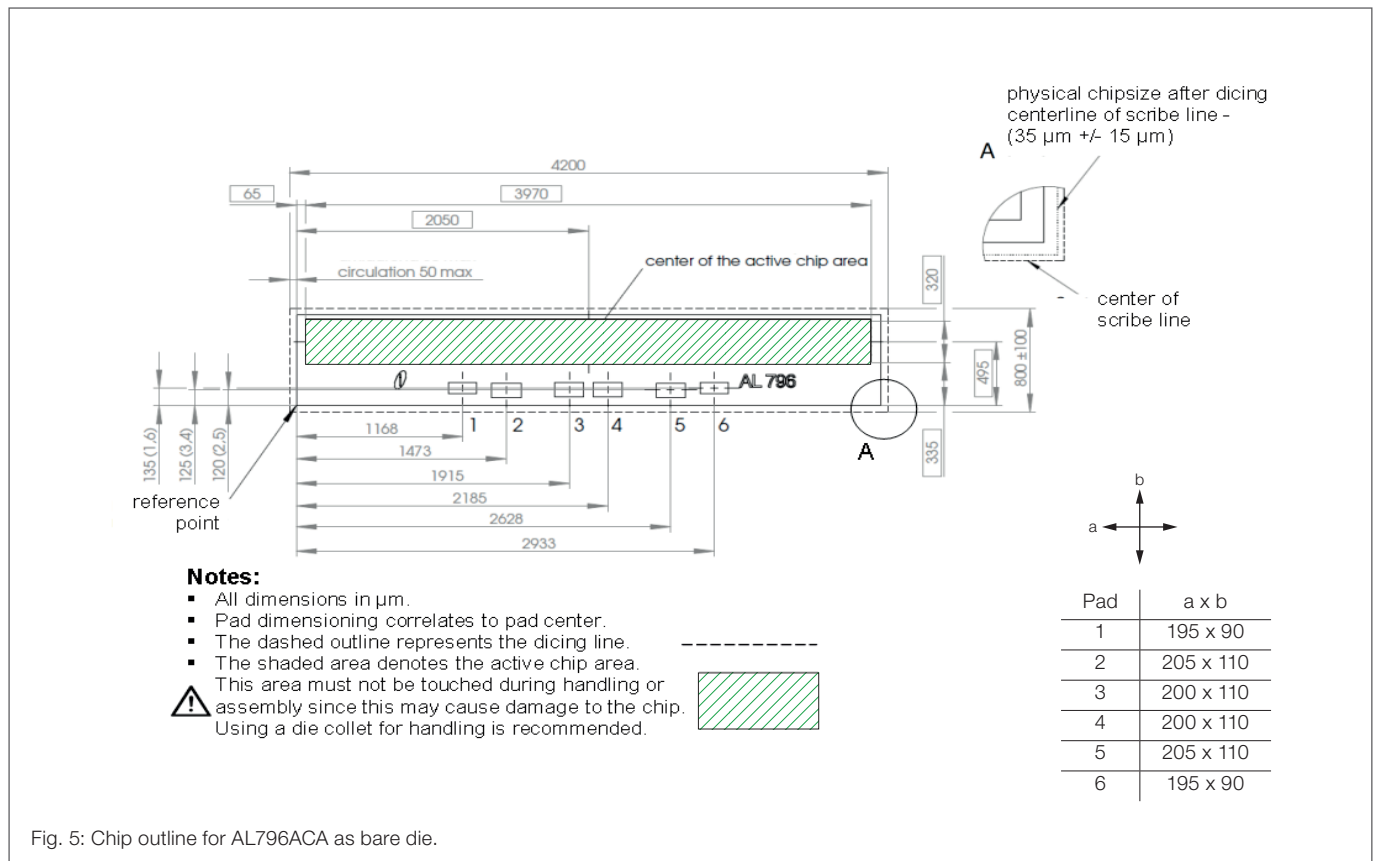

Fig. 5: Chip outline for AL796ACA as bare die.
1) Tolerances of chip see Fig.5.